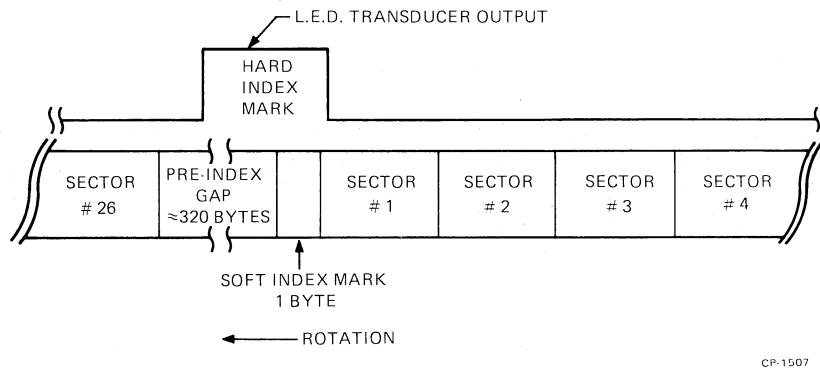
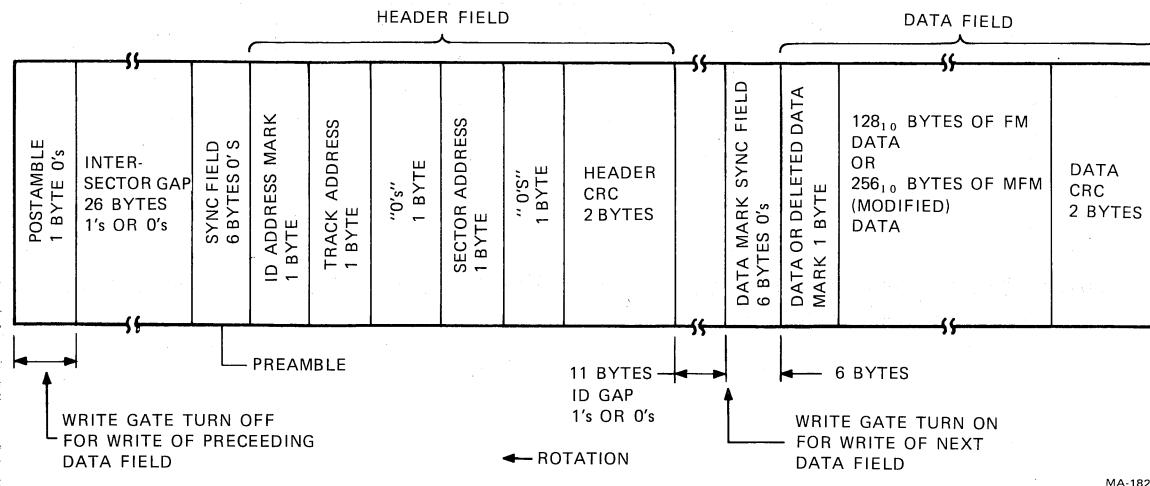

Figure 1-9 Track Format (Each Track)
Figure 1-10 Sector Format (Each Sector)
Data is recorded on only one side of the diskette. This surface is divided into 77 concentric circles or "tracks" numbered 0–76. Each track is divided into 26 sectors numbered 1–26 (Figure 1-9). Each sector contains two major fields: the header field and the data field (Figure 1-10).
1.5.3.2 Data Field Description – The data field contains either 131_{10} or 259_{10} bytes of information depending on the recording scheme. This field is preceded by a field of zeros for synchronization and the header field (Figure 1-10).